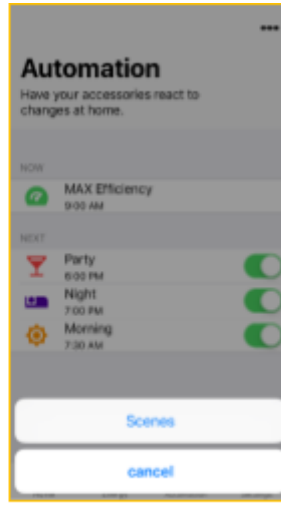

Figure 57
**10.13.4.** Click  and select **Scenes** (Fig. 57) to edit scenarios.